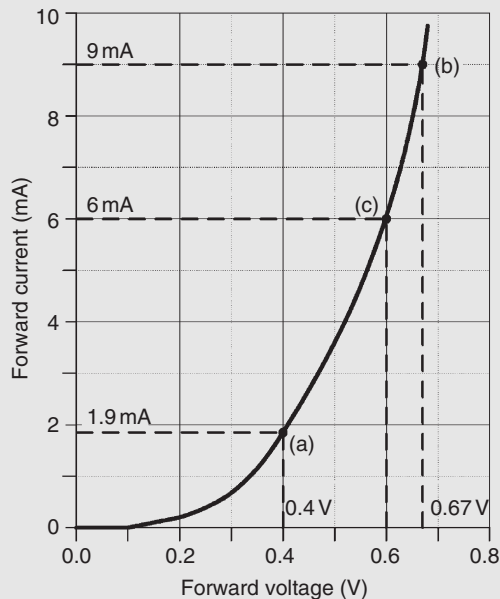

Figure 11.11
Problem 4. The forward characteristic of a diode is shown in Fig. 11.11. Use the characteristic to determine (a) the current flowing in the diode when a forward voltage of 0.4 V is applied, (b) the voltage dropped across the diode when a forward current of 9 mA is flowing in it, (c) the resistance of the diode when the forward voltage is 0.6 V and (d) whether the diode is a Ge or Si type.
- (a) From Fig. 11.11, when $V = 0.4$ V, **current flowing, $I = 1.9$ mA.**